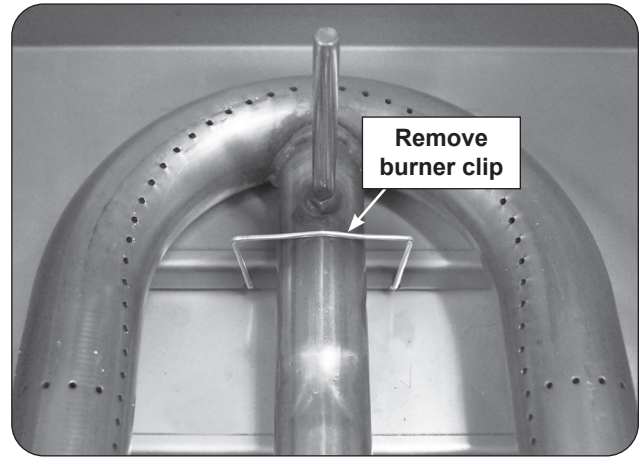

Fig. 38-1 Main burner removal
2. Locate the burner clip (located over the rear center tube of the burner) and slightly pinch and remove the clip from the burner support. See Fig. 38-1.